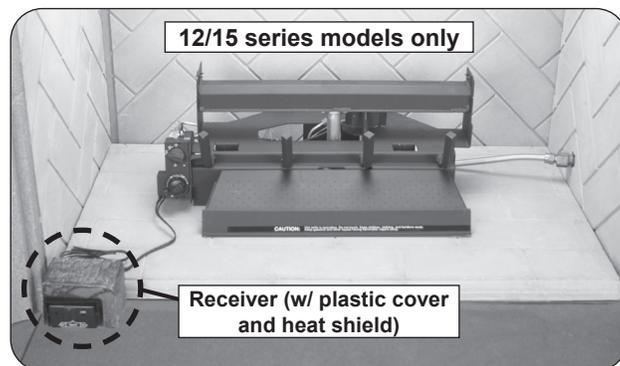

Fig. 17-2 Place remote receiver
2. **Place the remote receiver at the front left corner of the fireplace.** Place as far from the burner system as possible. See Fig. 17-2.
3. Place the plastic cover over the remote receiver with the open side facing forward to allow access to the receiver controls. Then place the decorative heat shield. See Fig. 17-2.